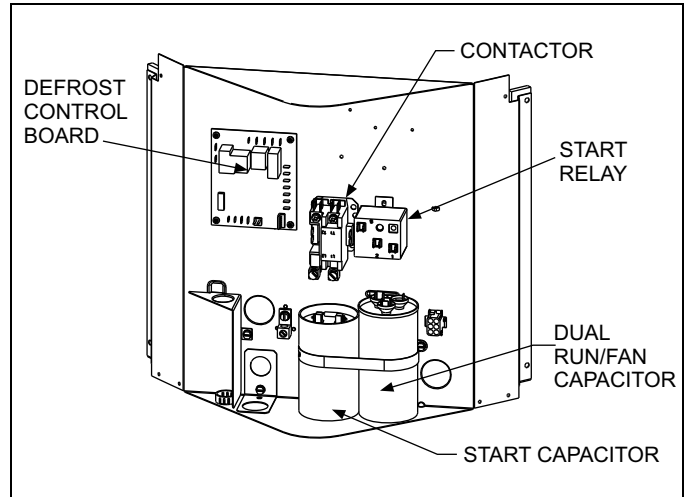

FIGURE 7
1. Use the pilot hole behind start relay sticker to attach start relay. see Figure 7.